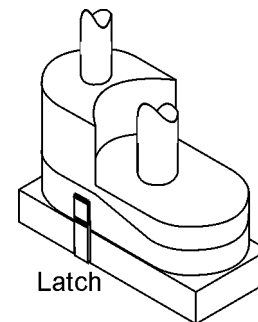

Figure 7-5. Humidifier
11. Also behind the access door is the humidifier. See Figure 7-5. Lift the latches on both sides of this small unit.